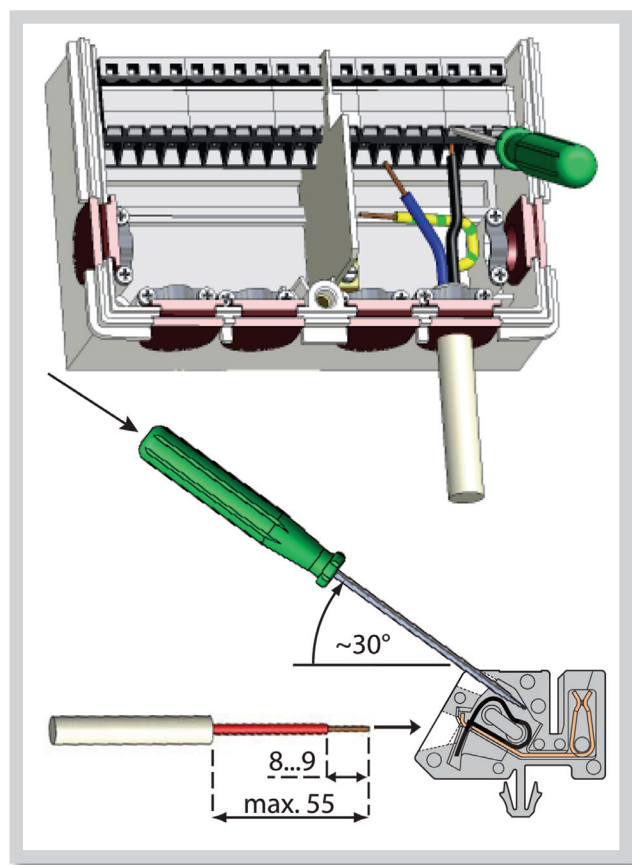

Fig. A 4.1
4. Strip the cable by 55 mm max., insert and fit the cable strain relief. Strip the last 8-9 mm of all the wires (Fig. A 4.1).
5. Open the terminals using a flat screwdriver (Fig. A 4.1) and wire the leads following the diagrams (Chapter B1 to B20).